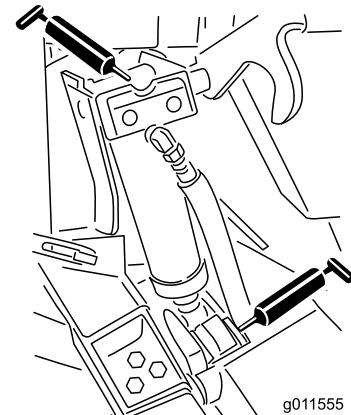

Figure 45
- 4 lift-cylinder bushings (Figure 45)